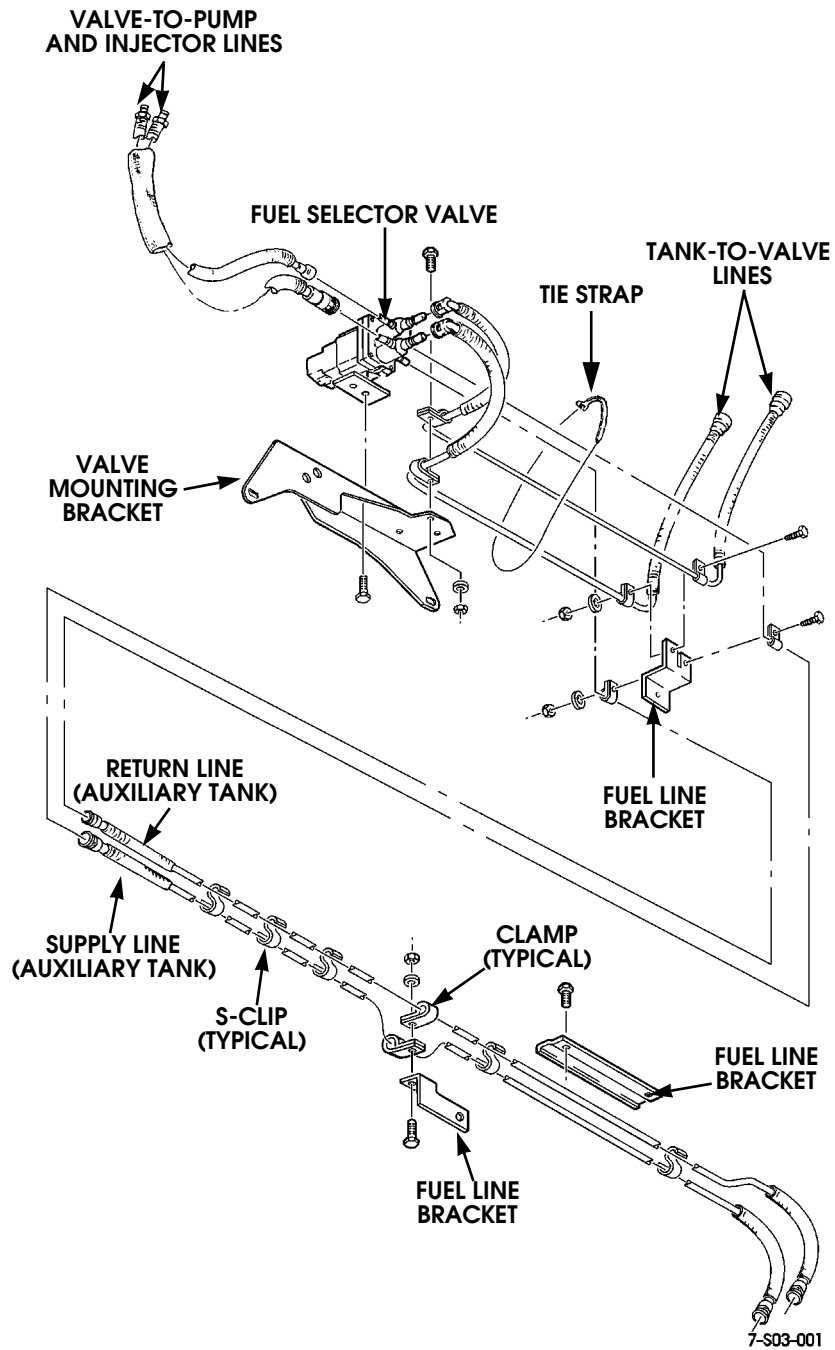

Figure 3-39: Fuel Lines, Connections, and Attachment
11. Remove supply and/or return lines as needed (Figure 3-39).
1. Route new lines as needed (Figure 3-39). Be sure lines are not kinked, pinched, or touching hot or rotating parts.
The selector valve is used on models equipped with an auxiliary fuel tank (Figure 3-39). The valve is electrically operated by a switch in the passenger compartment. The switch will be mounted on the instrument panel.